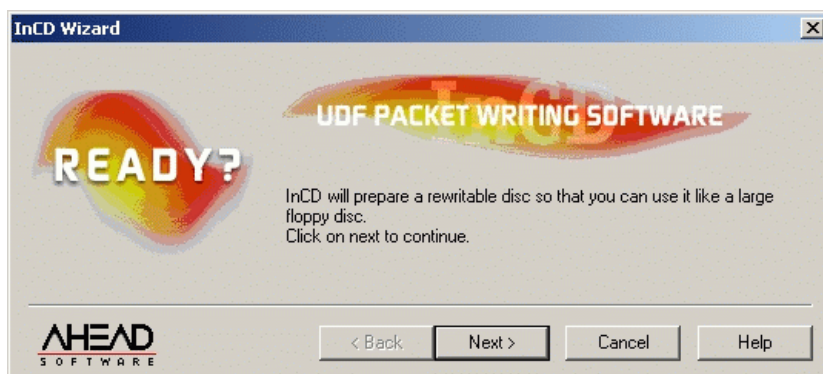

Figure 2-105 InCD Wizard (First Window)
- b. Right-click the icon and select *Format (F)*. The first window of the *InCD* wizard displays (Figure 2-105).